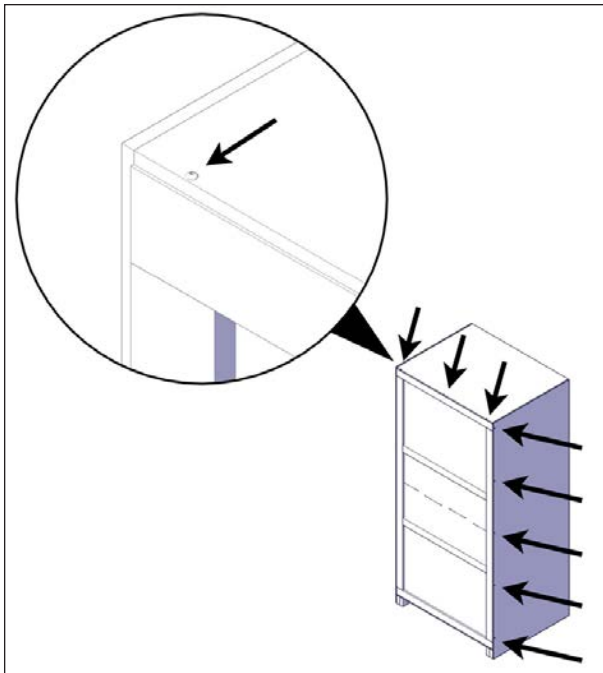

FIGURE 17: CARDBOARD REMOVAL
4. Unscrew the #8 x 1.5" Robertson screws holding the front cover – 5 screws per side and 3 on the top. You might need a step ladder to reach the top screws, see Figure 17.